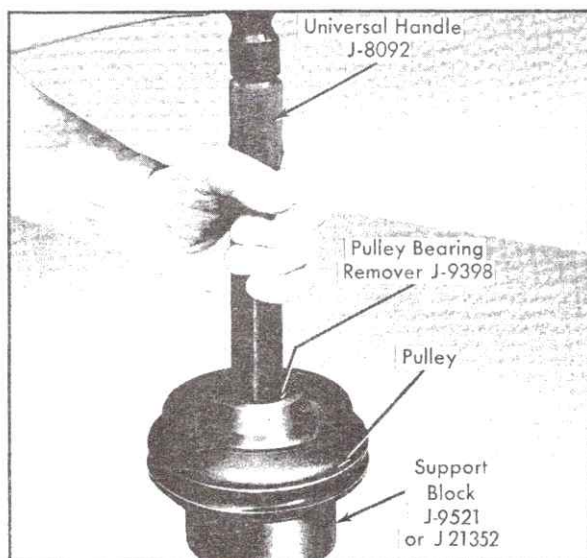

Fig. 1-38 Removing Bearing from Pulley
4. Place pulley and bearing assembly on inverted Support Block, J-9521, and, using Pulley Bearing Remover, J-9398, with Universal Handle, J-8092, drive bearing assembly out of pulley, Fig. 1-38.